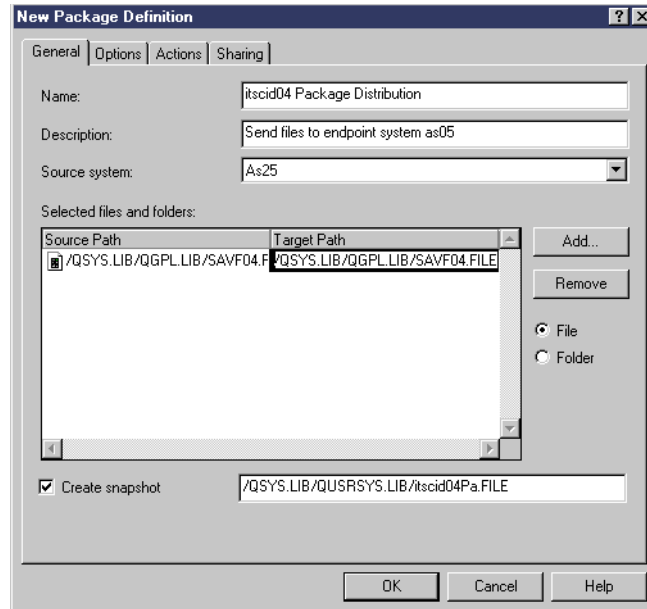

Figure 38. New package definition display
You can specify a target path where the files will be stored on the target system after they are received. You can specify a new name on the target system for any file or folder in the package. If you do not specify a target path, the source path will be used as a target. See Figure 38 on page 59.
4. Click **Add** to select the file (SAVF04 in QGPL) that you created in 4.4.1.1, "Creating a save file" on page 57, from the list. Check the box to the left of the file name. Select **OK**. It shows you the path name for the source and the target system as shown in Figure 38 on page 59. You can change the path name of the target system, if you prefer.